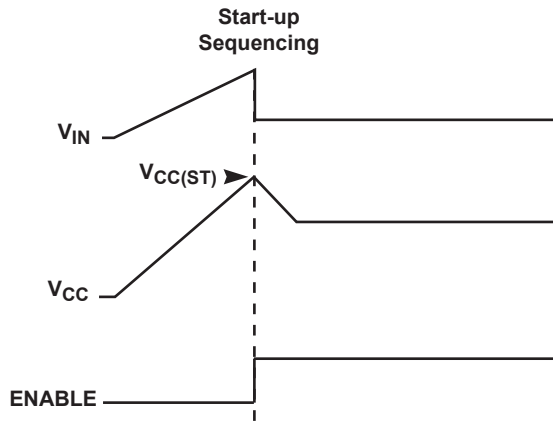

Figure 9.7 : Start-up Sequencing Diagram
Prior to start-up the V_{IN} pin charges up the V_{CC} capacitor through a diode between V_{IN} and V_{CC} . When V_{CC} is fully charged to a voltage higher than the start-up threshold $V_{CC(ST)}$, the ENABLE signal becomes active and enables the control logic, shown by Figure 9.7. When the control logic is enabled, the controller enters into normal operation mode. During the first 3 half AC cycles, OUTPUT(TR) keeps high. After the dimmer type and AC line period are measured, the constant current stage is enabled and the output voltage starts to ramp up. When the output voltage is above the forward voltage of LED, the controller begins to operate in constant current mode.